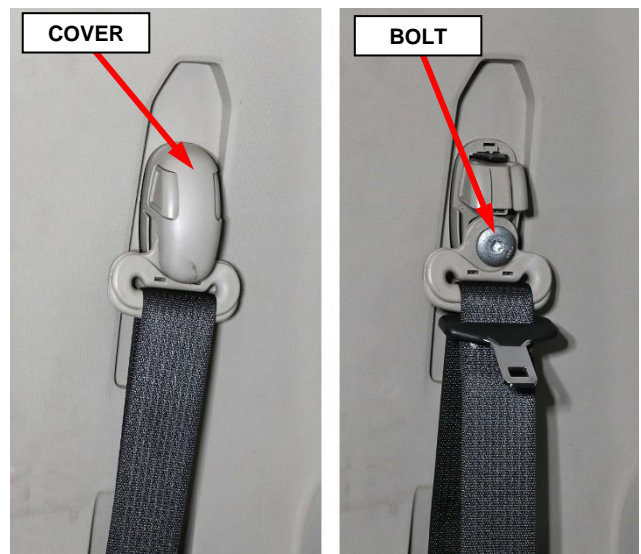

Figure 7 – Seat Belt Turning Loop
12. On the B-pillar, separate the seatbelt turning loop cover then remove the turning loop bolt (Figure 7).
48. Using a **NEW** bolt and reusing the spacer washer, install the turning loop then tighten the bolt to 40 N·m (30 ft. lbs.) (Figure 7).
49. Install the seat belt turning loop cover (Figure 7).